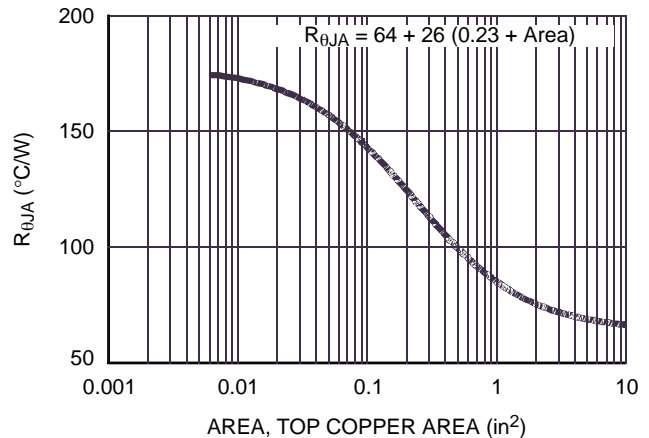

Figure 21. Thermal Resistance vs. Mounting Pad Area
**onsemi** provides thermal information to assist the designer' preliminary application evaluation. Figure 21 defines the  $R_{\theta JA}$  for the device as a function of the top copper (component side) area. This is for a horizontally positioned FR-4 board with 1oz copper after 1000 seconds of steady state power with no air flow. This graph provides the necessary information for calculation of the steady state junction temperature or power dissipation. Pulse applications can be evaluated using the **onsemi** device Spice thermal model or manually utilizing the normalized maximum transient thermal impedance curve.
Thermal resistances corresponding to other copper areas can be obtained from Figure 21 or by calculation using Equation 2. The area, in square inches is the top copper area including the gate and source pads.